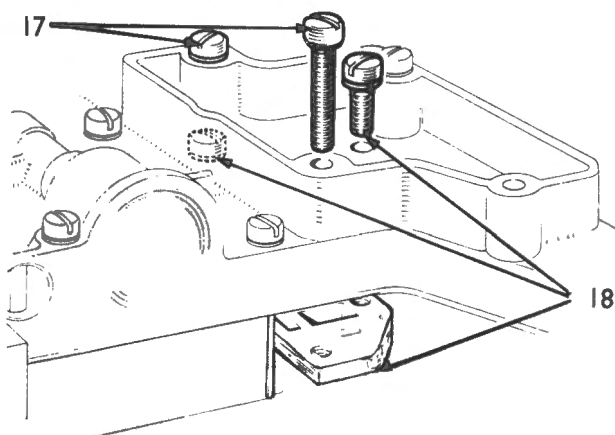

Fig. M-50
- 17 Governor line plate. Sequence Fig. M-50. Remove the two long screws.